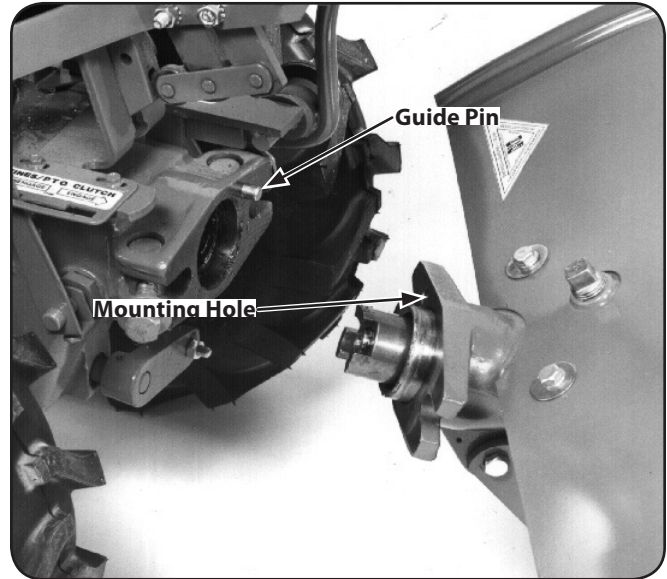

Figure 5-23
10. The guide pin on the power unit will slide out of the guide hole in the tine attachment. See Figure 5-23.
4. Carefully align the guide pin on the PTO Power Unit with the alignment hole in the tine attachment and bring the two units together. See Figure 5-23.